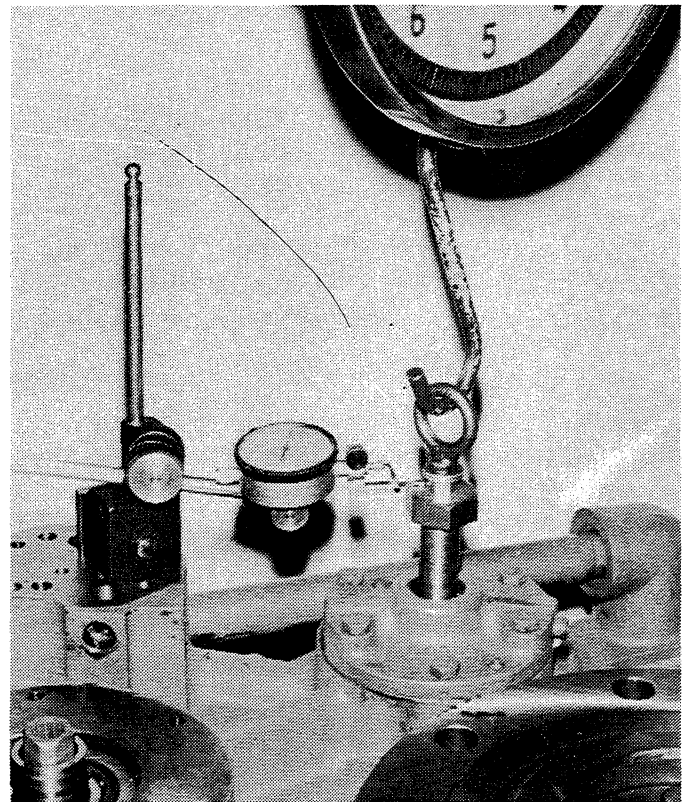

Figure 9-5. Checking Endplay of Forward Shaft.
- f. Secure with four hex-head screws (21) and two hex-head screws (19). Torque the screws 27 ± 2 lb. ft.
- g. Thread special tool T-18646 into the end of the forward shaft through the hole in the bearing retainer. See Figure 9-5.
- j. Attach a dial indicator to a machined area of the manifold and rest the finger on the machined surface on the end of the special tool. See Figure 9-5.